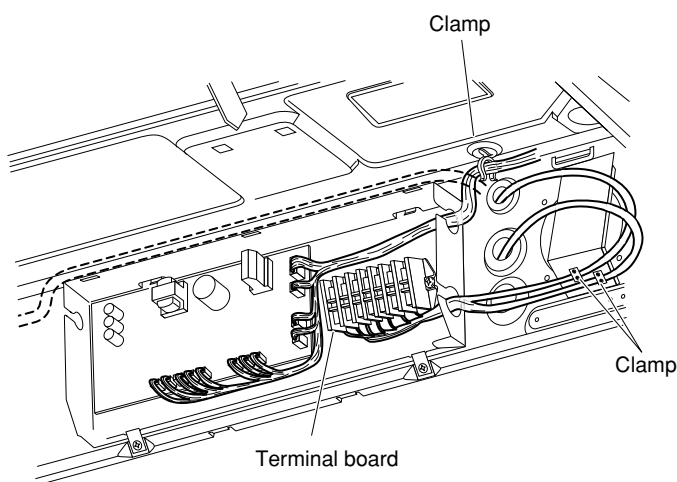

Fig. 11-10
- (5) Reattach the side panel.
- (6) Route the lead wire from the receiver unit along the louver motor wiring and other wiring and fasten them with a fastener. (Fig. 11-10)